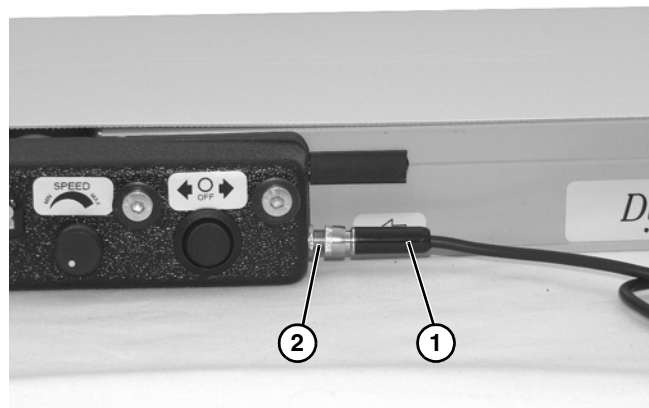

Figure 25
1. No wiring is required. Attach quick disconnect end of power supply (**Figure 25, item 1**) to power jack (**Figure 25, item 2**).